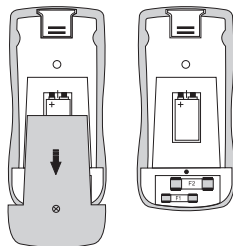

Fig. 11
2. Loosen and remove the battery compartment screw (15) on the back.
3. Fold out the positioning bracket (13). Pull the battery and fuse compartment lid downwards from the measuring device (Fig. 11).